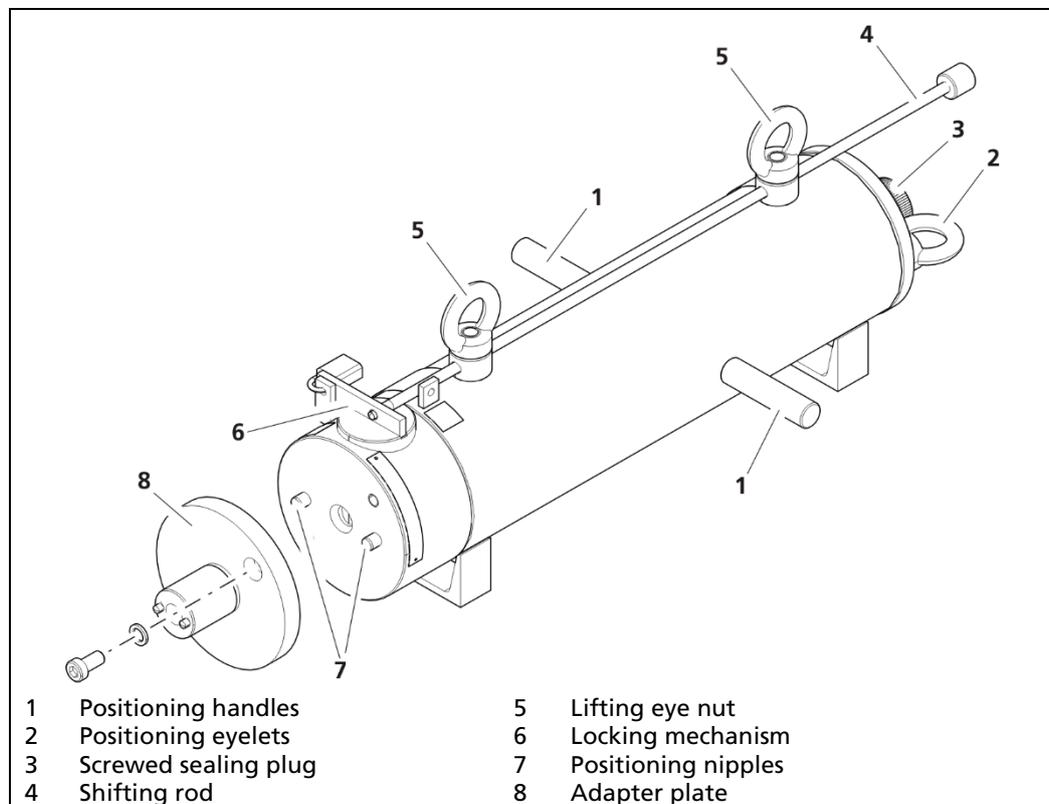

Fig. 3 Structure of a transfer shield
The storage of the source as well as its mounting in and dismounting from the mold is executed using a LB 7680 transfer shield. A shifting rod (Fig. 3, pos.4) is provided for the safe mounting and dismounting of the source. The locking mechanism (Fig. 3, pos.6) is located at the lower end of the transfer shield. Two positioning nipples are located at the bottom of the shield (Fig. 3, pos.7). The positioning nipples fit into the respective bore holes in the mold head (to be provided by the customer) and ensure the correct and accurate positioning of the transfer shield when mounting and/or dismounting the source.